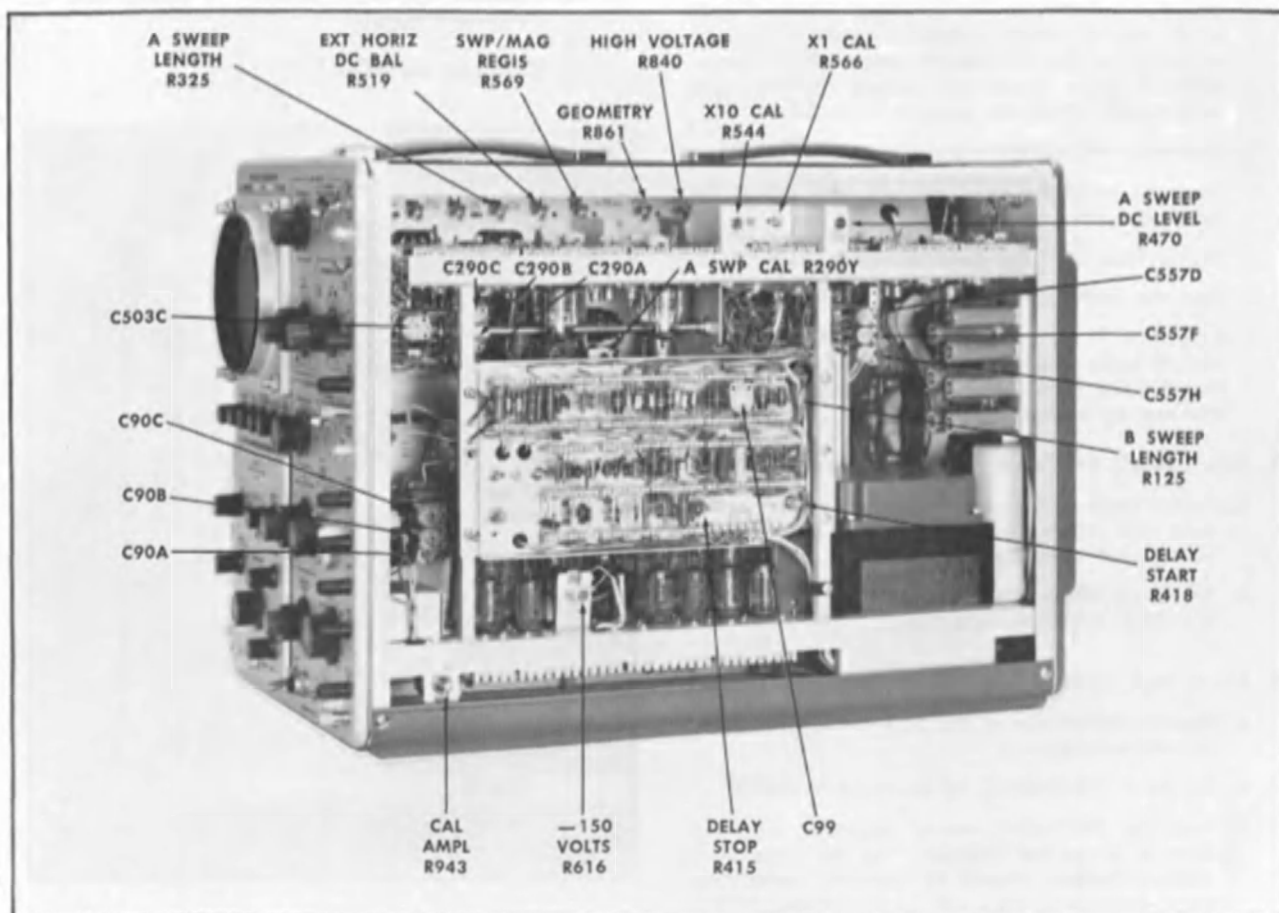

Fig. 5-2. Calibration adjustment locations.
- c. If necessary, adjust -150 VOLTS R616 (see Fig. 5-2) so all power supply voltages are within tolerance.
- b. Adjust the HIGH VOLTAGE R840 (see Fig. 5-2) for a —1850 voltmeter indication.
- Adjust CAL AMPL R943 (see Fig. 5-2) for a voltmeter reading of exactly 100 volts.
- Adjust GEOMETRY R861 (see Fig. 5-2) for the straightest possible vertical marker-lines running parallel to